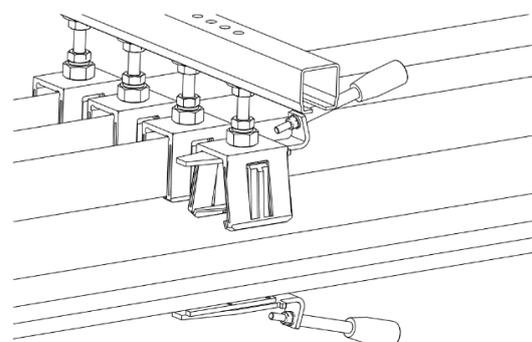

Fig. 8: Remove Tool 2 from the open side of the conductor rail
- Remove Tool 2 from the open side of the conductor rail (see Fig. 8).